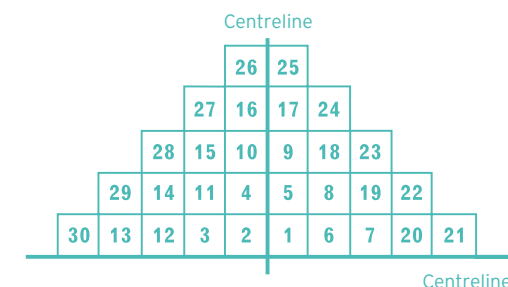

Figure 9 Pyramid layout
- > Lay the first pyramid of tiles from the centrelines, using the sequence shown in fig. 9. Ensure a close bond is maintained at all times.
NOTE Construction of a pyramid should always start at the centre of the baseline, working in the same sequence as shown in Figure 9.